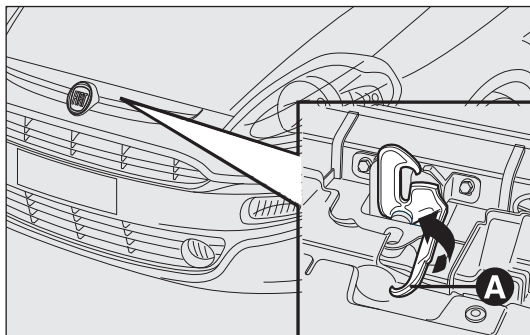

fig. 109
- pull the catch A-fig. 109 as shown in the diagram;